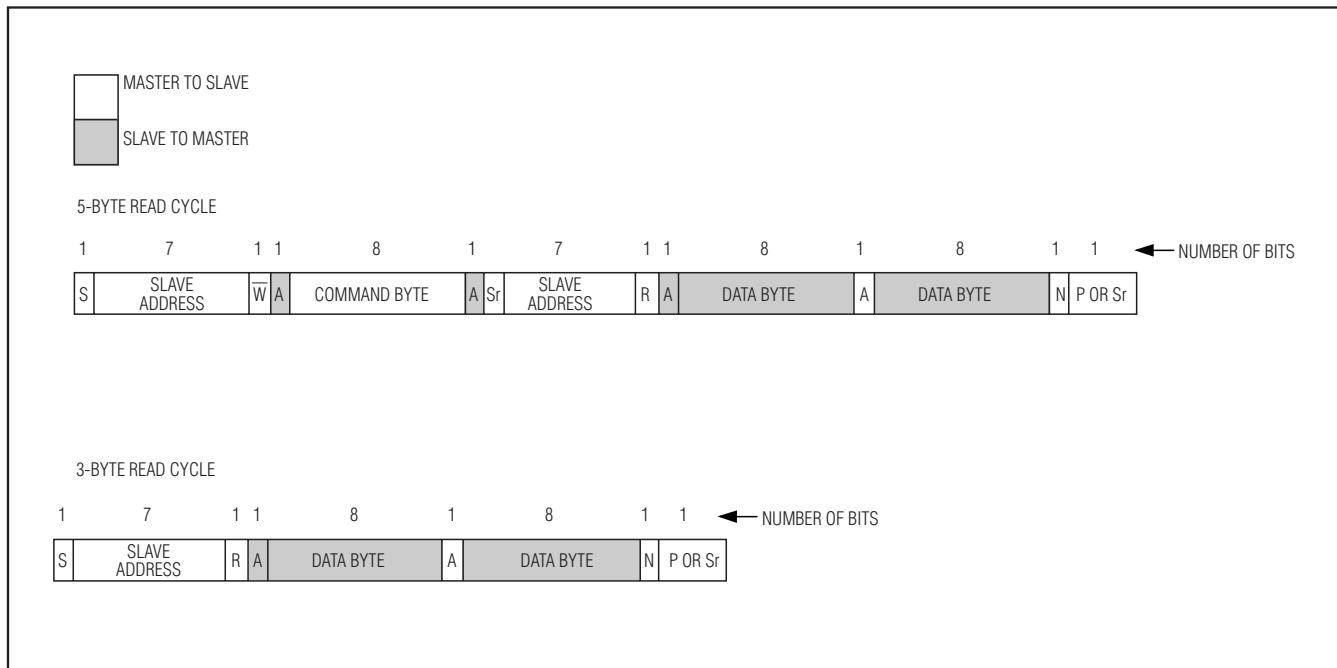

Figure 11. 5-Byte and 3-Byte Read Cycle
contents of the register that was addressed in the previous command byte) to the master. Finally, the master issues a NACK followed by a STOP condition (P), ending the read cycle. Figure 11 shows a complete 5-byte read cycle.
The MAX11008 2-wire interface has a unique feature for read commands. To avoid the necessity of sending 2 slave address bytes in one read cycle (see the 5-byte read cycle in Figure 11), the MAX11008 2-wire interface recognizes a single slave address byte with a read bit (R/W = 1). In this case, the interface outputs the contents of the last read device register. This default read feature is useful when the master must perform multiple consecutive reads from the same device register. Figure 11 shows a complete 3-byte read cycle.